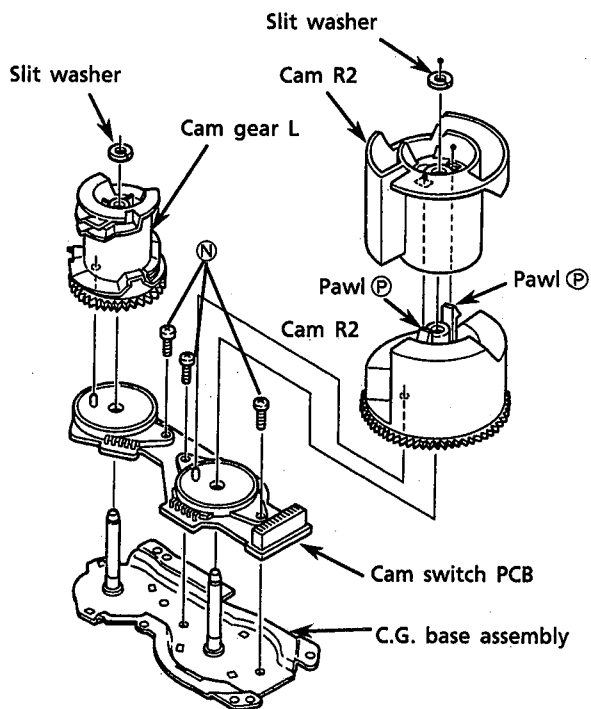

Fig. 48
(See Fig. 48.)
(30) Removal of C.G. base ass'y
Remove 3 screws ⑨ securing the C.G. base ass'y. (See Fig. 48 and 49.)